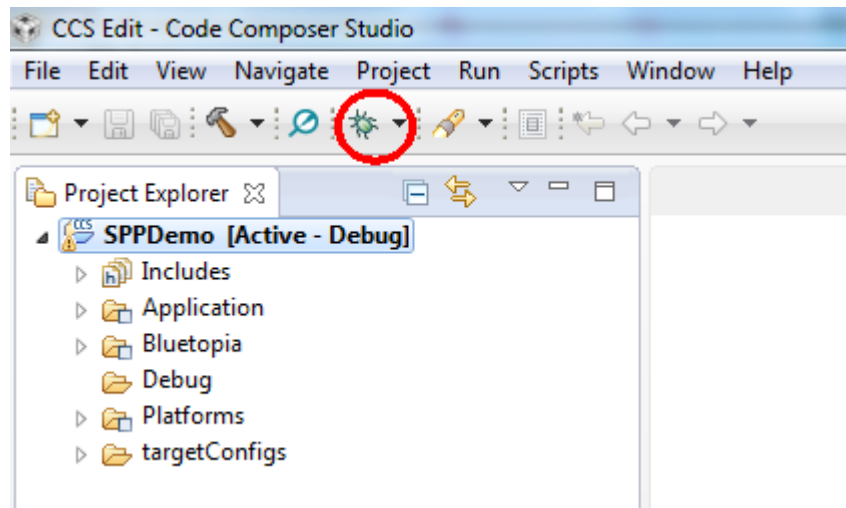

Figure 8. Debug
7. Select the Debug button from the toolbar (see Figure 8).